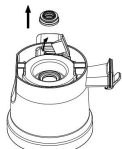

Fig 12a
- Turn the Squeezing Bowl upside down for easier handling, Push the seal ring out with your thumb (Fig 12a) and clean it with water.